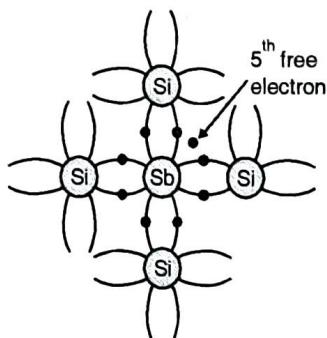

Fig. 3.7.1 : n-type semiconductor
- As shown in Fig. 3.7.1 antimony (Sb) added as an impurity has five valence electrons. Each Sb atom forms covalent bonds with the surrounding four Si atoms with the help of four of its five electrons and the fifth valence electron remains loosely bound to the parent impurity atom which becomes available as current carrier.